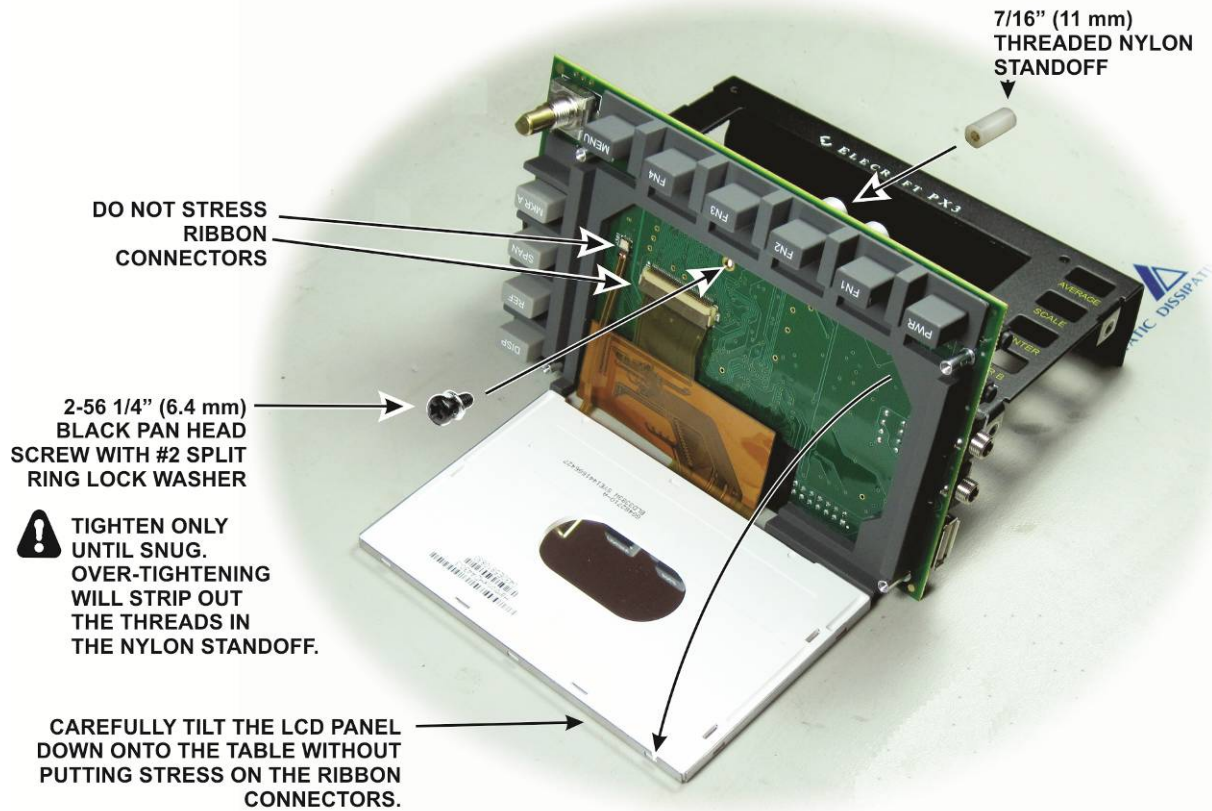
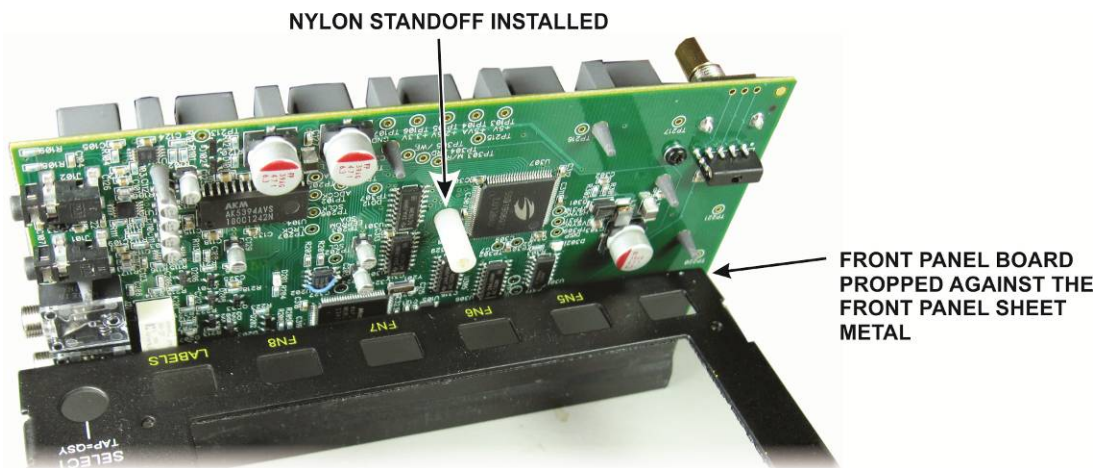

Figure 28. Installing the Nylon Standoff on the Front Panel PC Board.
Figure 29. Nylon Standoff Installed.
□ Locate the front panel. On the inside are four small pieces of conductive tape covering screw holes at each corner of the large opening for the LCD (see Figure 28). **Do not remove this tape!** It provides an essential ground for the LCD when the front panel board is mounted. Use a sharp knife point or other tool to open the tape over each screw hole. Work from the inside so you do not push the tape away from the panel. This is needed to mount the front panel board later, but first you will need to prepare the front panel board for installation in the next few steps.
□ Place the front panel face up on your work table. Carefully remove the rubber band holding the LCD in place and prop the front panel board up on its **top** edge against your work table. Install the threaded nylon standoff on the board as shown in Figure 28. Tighten only until the standoff is snug. Do not over-tighten or you will strip the threads in the standoff. The installed standoff is shown Figure 29, If one of the ribbon cables does come loose, see *Replacing the LCD* on page 62.